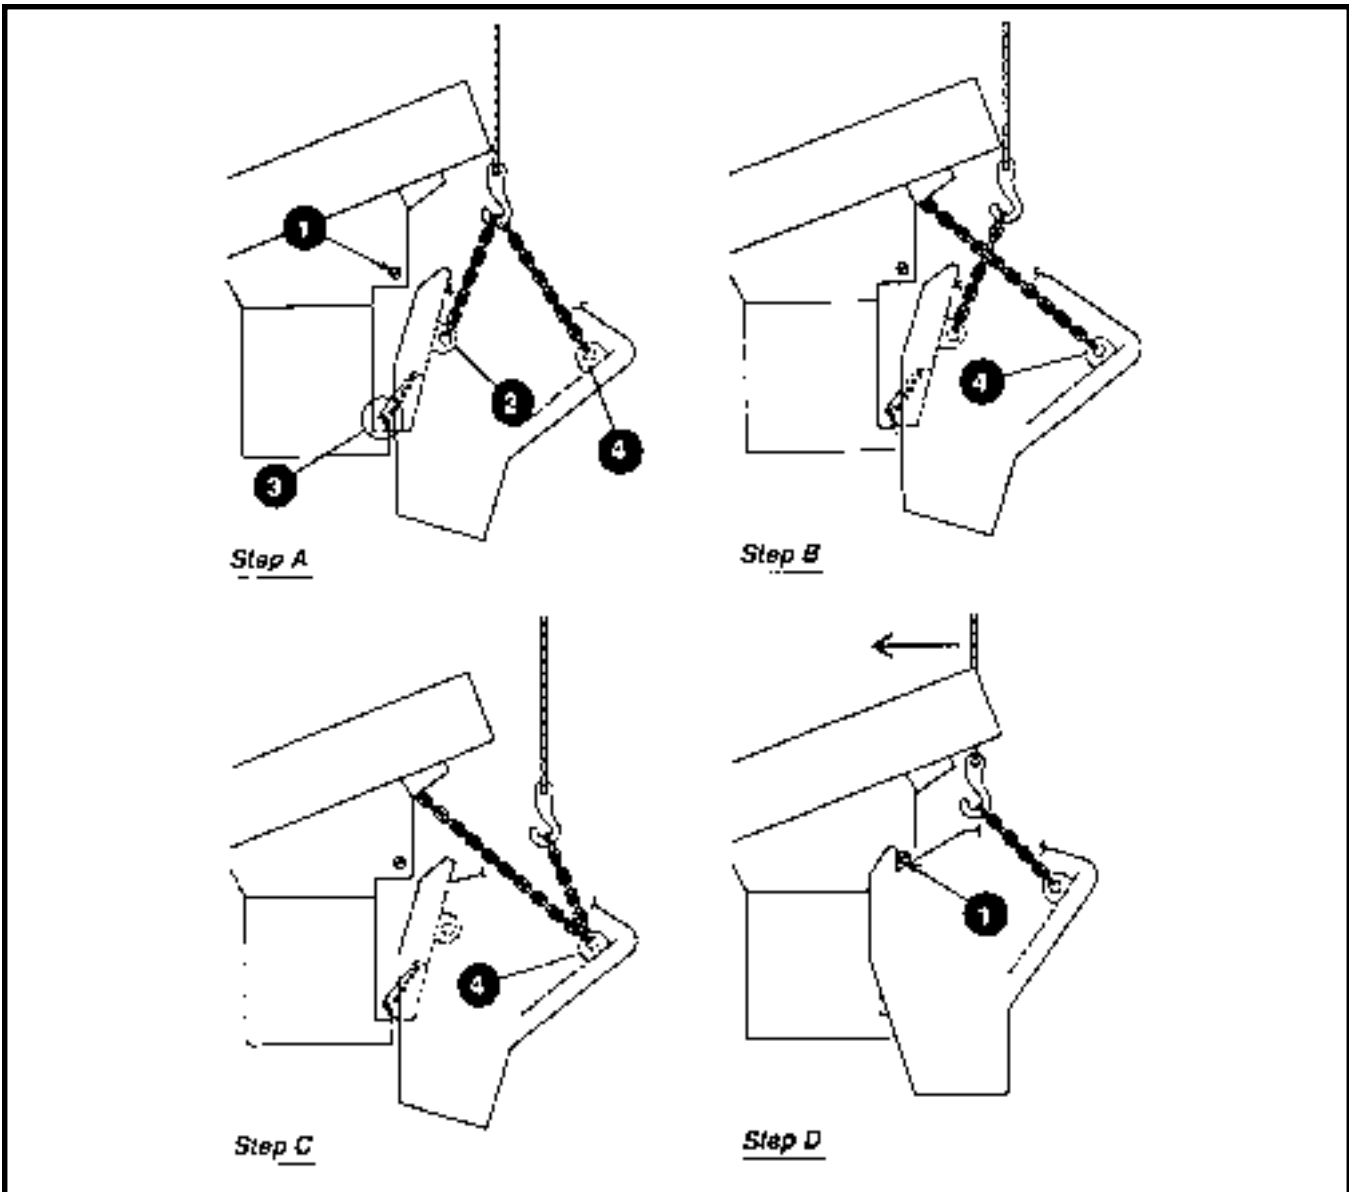

FIGURE 5
1. ATTACHING THE SPREAD HOPPER (FIGURE 5)
STEP B Attach chain between the front lifting eye (4) of the hopper and the front of the Chip Spreader. See Figure 5, Step B. Release tension on the lifting chain.